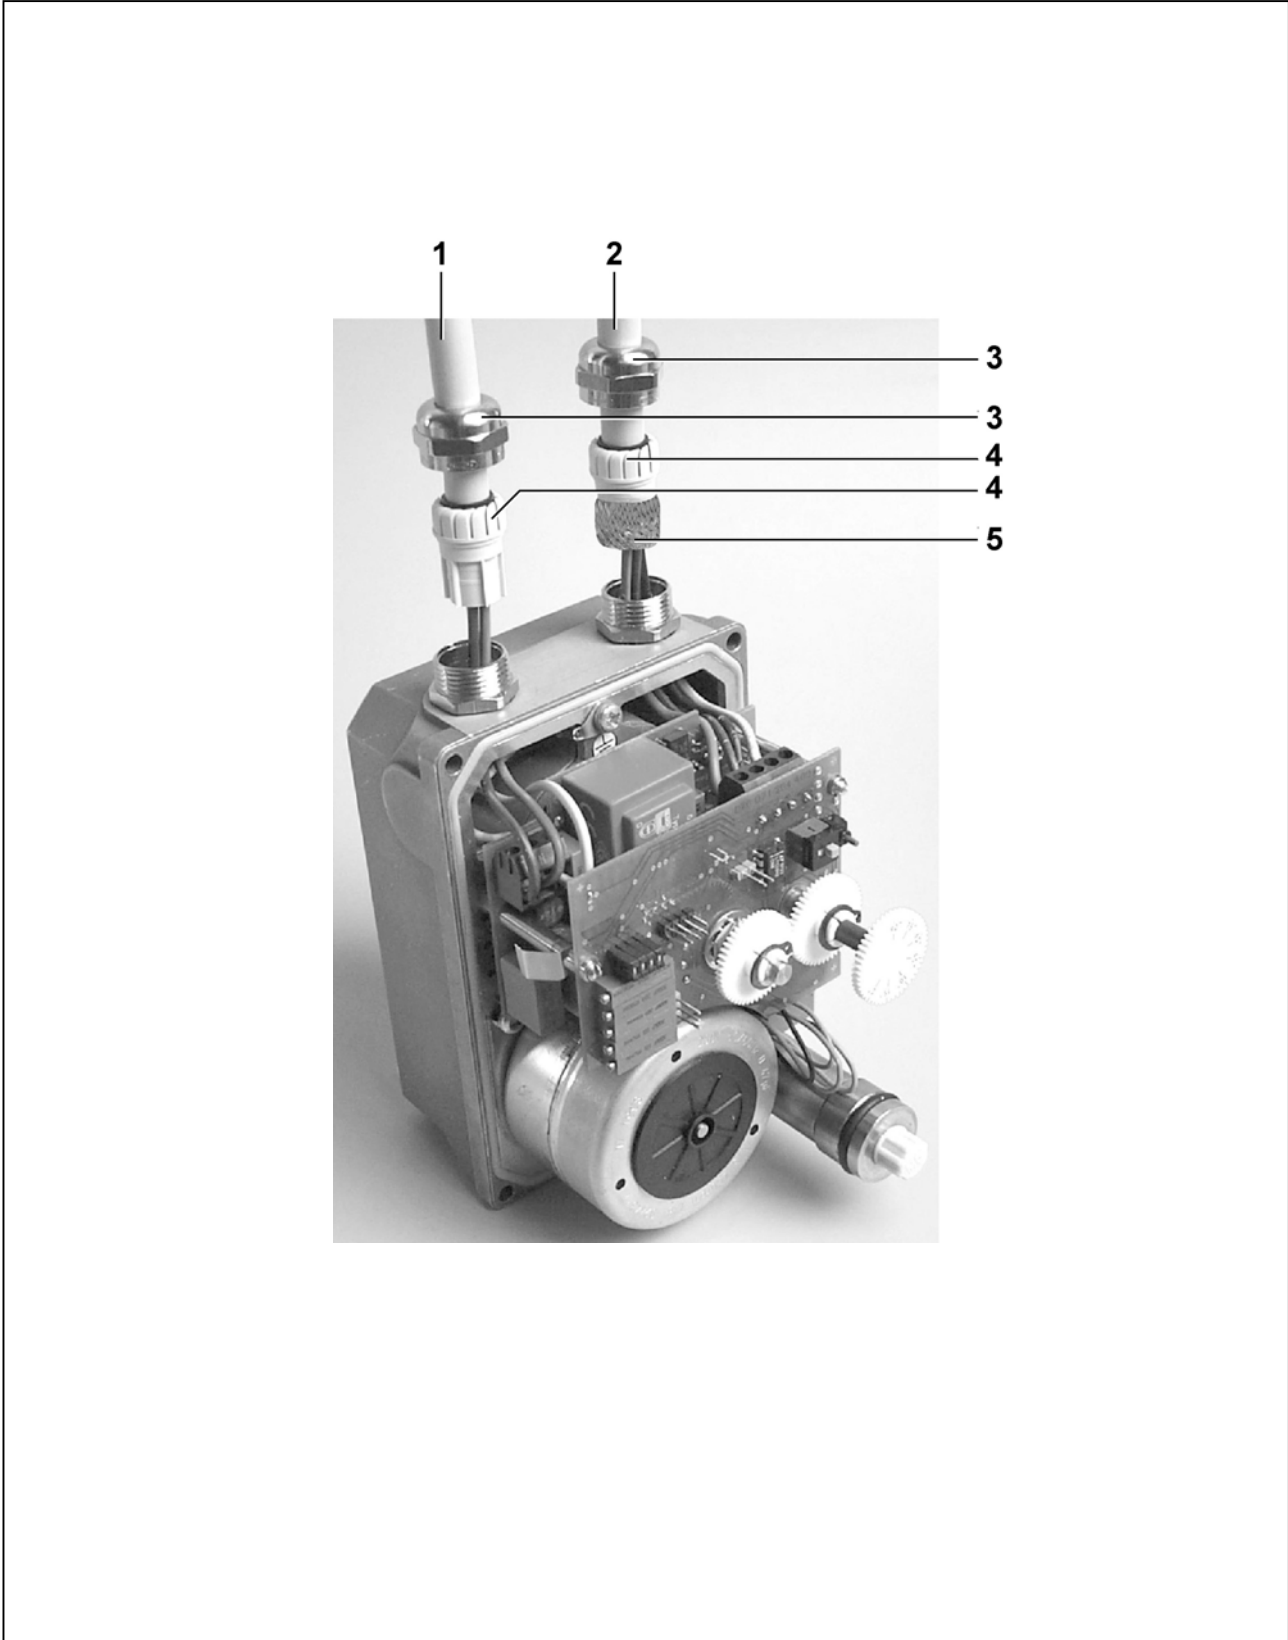

Fig. 8-4 Connecting the cables/leads - for example to the ER 20
- Push the power supply cable (1) through the unscrewed union nut (3) and the plastic support sleeve (4) and insert the cable into the left-hand cable screw fitting in accordance with Figure 8-4. Tighten the union nut, so that the strain relief is effective and the cable lead-through corresponds to the predefined degree of protection (IP 65).
- Push the setpoint/actual value cable (2) through the unscrewed union nut (3) and plastic support sleeve (4), spread out the screen (5) and distribute the wires around the plastic support sleeve in accordance with Figure 8-4. Insert the setpoint/actual value cable into the right-hand cable screw fitting. Tighten the union nut so that the screen is electrically connected to the housing, the strain relief is effective and the cable lead-through corresponds to the predefined degree of protection.
- Loosen the screws of the terminals and pull the leads out of the terminals. On this point, see Figure 8-4.